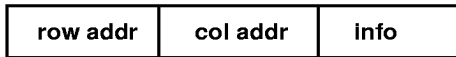

Figure 3. Data Packet for Display Data
Basically, the transmission format is very similar with that for display RAM or control registers. The major difference is to replace the row and column address with segment address and line address respectively. There are also three transmission formats, from (a) to (c) as stated below. The data train in each sequence consists of segment address (S), line address (L), and font informations (I), as shown in Figure 3. In format (a), each font information data have to be preceded with the corresponding segment address and line address. This format is particular suitable for updating small portion of font pattern. However, if the current information byte has the same segment address as the one before, format (b) is recommended. For a new font pattern change which requires massive information update or during power up situation, most of the segment and column address on either (a) or (b) format will appear to be redundant. A more efficient data transmission format (c) should be applied. It sends the character RAM starting segment and line addresses once only, and then treat all subsequent data as font information. The segment and line addresses will be automatically incremented internally for each RAM font data from the starting location.